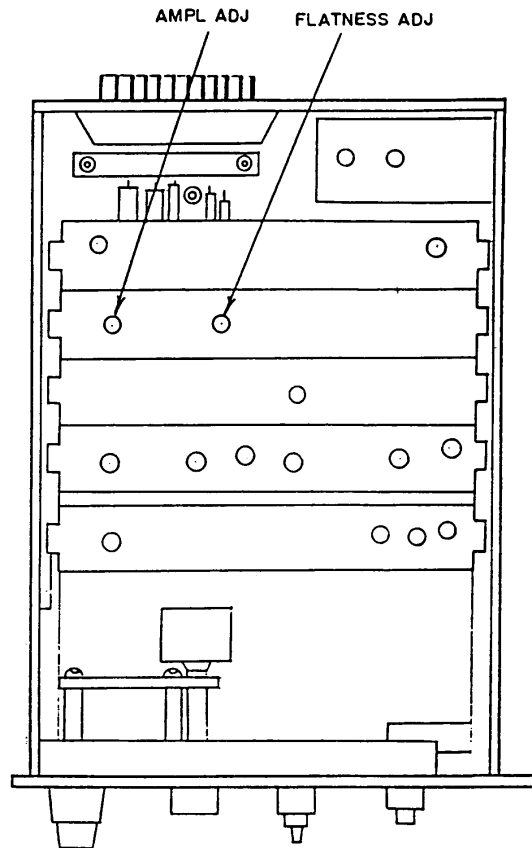

Figure 13. Adjustment locations.
- (2) Adjust **AMPL ADJ** (fig. 13) for a multimeter indication of 100 mV rms (R).
- (3) Set **FREQUENCY** controls to 300 kHz and adjust **FLATNESS ADJ** control (fig. 13) for an indication between 95 and 105 mV rms. Repeat **a** above for best compromise (R).